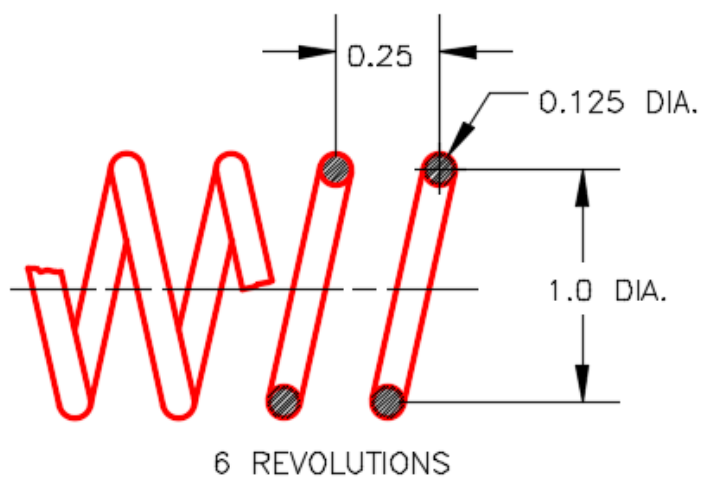

Figure Step 7A
Step 7 Draw a solid model of the spring on layer: Solid 8 using the dimensioned drawing as a reference. Draw a center line in the model. (Figure Step 7A and 7B)